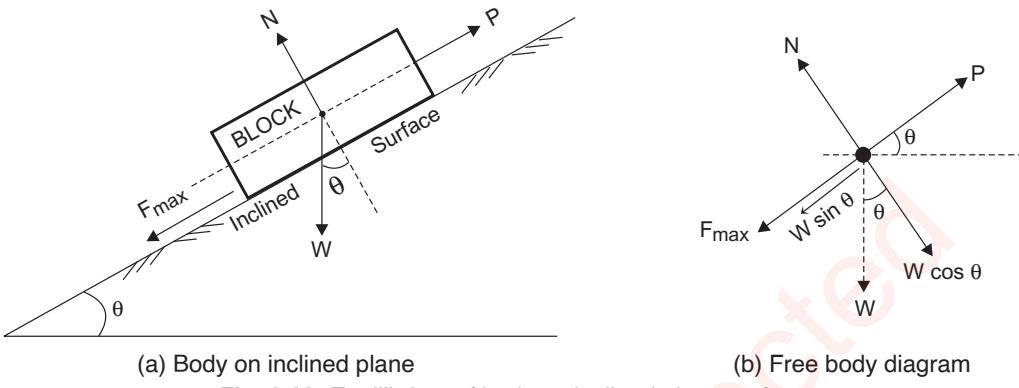

Fig. 3.10: Equilibrium of body on inclined plane surface
3.3.1 Equilibrium of a body on an inclined plane with parallel external force to plane (Fig. 3.10)
The forces acting on the body for this case are shown in fig. 3.10.